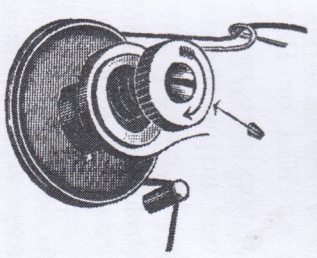

Fig. 14.
**A correct stitch can usually be obtained by varying the tension on the needle thread (see Fig. 14).—**To increase the tension, turn the thumb nut in the direction illustrated by the arrow. To lessen the tension, turn the nut in the opposite direction.